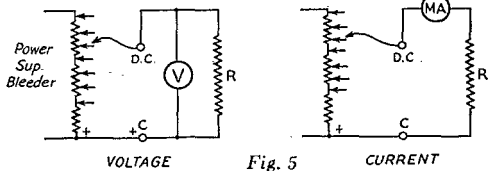

Fig. 5
**Procedure:** Set  $R_4$  in the power supply at maximum and measure the output voltages at the various taps. Connect the 5000-ohm resistor to the power-supply output terminals and take readings of current and voltage at each tap on the bleeder. In taking voltage readings, be sure the resistor circuit is closed so that the actual voltage under load is measured. Fig. 5 shows the method. If two instruments are available simultaneous readings can be taken, but equally good results can be secured with only one instrument by shifting from current to voltage ranges. Take similar sets of readings with the 2000- and 1000-ohm resistors, and also with the 10-watt lamp. A typical set of data is given at the bottom of the page. The currents are in milliamperes.